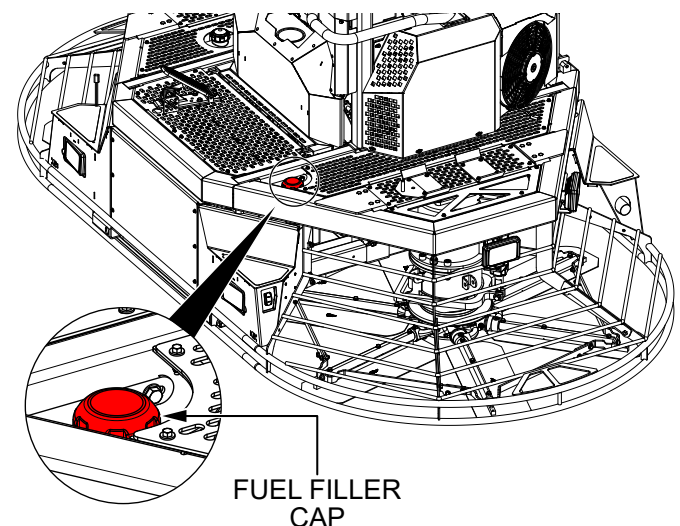

Figure 29. Fuel Filler Cap (Gasoline)
- If fuel is low, remove the red fuel filler cap (Figure 29) and fill the tank with unleaded 87 or 89 octane gasoline. **DO NOT** overfill. The fuel tank holds 14.5 gallons (55 liters) of gasoline.